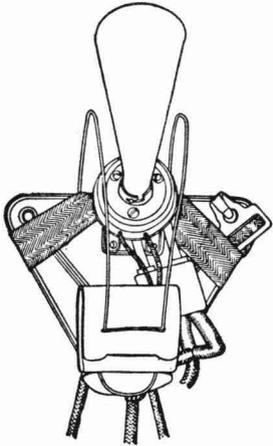
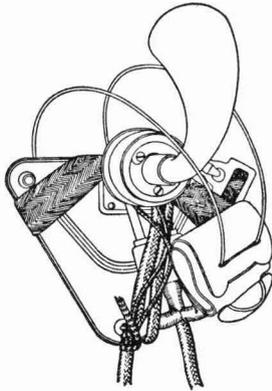

Fig. 3
Fig. 4
4.03 Place the plug flat against the front of the plate under the transmitter cords, as shown in Fig. 3, with one prong of the plug between the upright supports of the transmitter and the rubber-covered cords curving over the edge of the plate slightly above and to the right of the base of the plate. Hold the receiver in place with the fingers of the left hand and hold the plug with the left thumb. With the right hand, swing the doubled receiver cord over the plug and to the right of the transmitter, as shown in Fig. 4. Pass it over the top and down across the back of the breastplate. Hold the loop of this cord in place with the fingers of the left hand.